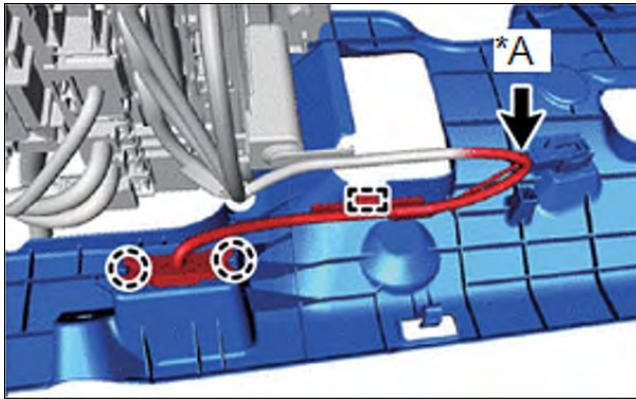

Figure 70
- (a) With illumination, connect the guide and 2 claws, and connect the connector, as shown in Figure 70.